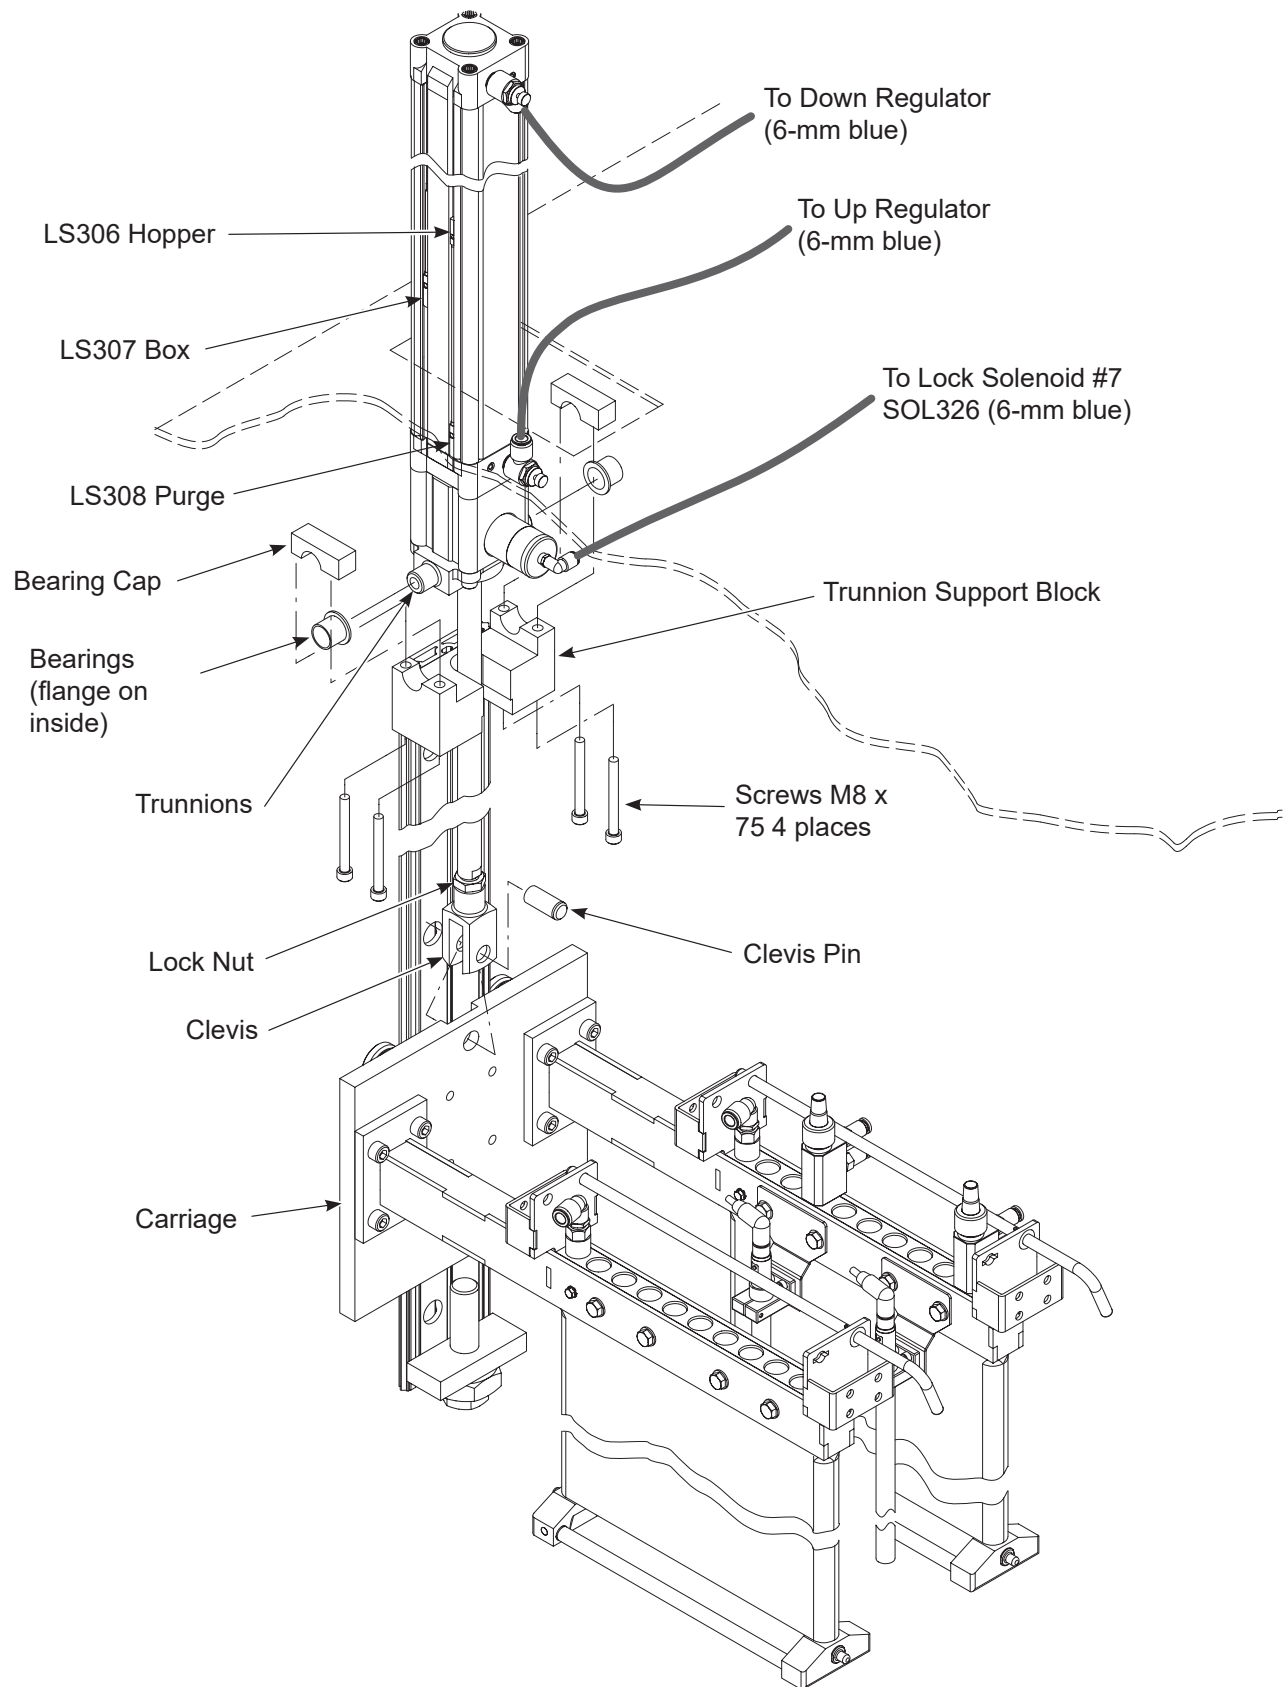

Figure 8-8 Lift Cylinder Replacement
5. See Figure 8-8. Disconnect the air tubing from the Up and Down flow control valves and the cylinder lock at the top and bottom of the cylinder.
2. See Figure 8-8. Install the trunnion flange on the new cylinder.